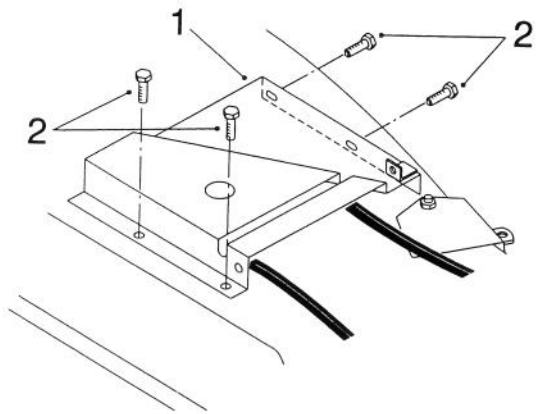

Figure 16
2. Mount the mower belt cover (Fig. 16) loosely on the outside of the mower belt-cover bracket using four $\frac{1}{4}$ " x $\frac{1}{2}$ " thread-forming hex-head flange screws. Do not tighten the screws because an adjustment is made in the next step.